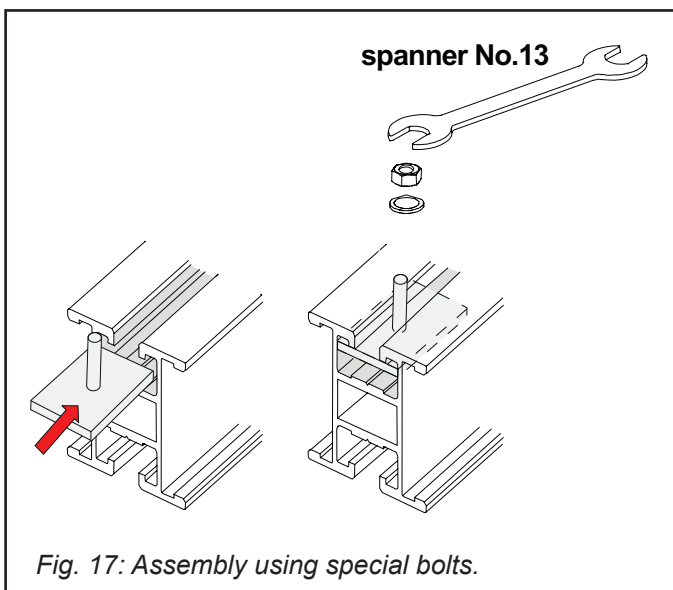

Fig. 17: Assembly using special bolts.
- Insert the M8 bolt with a special head (Fig. 17) into the rail grooves.